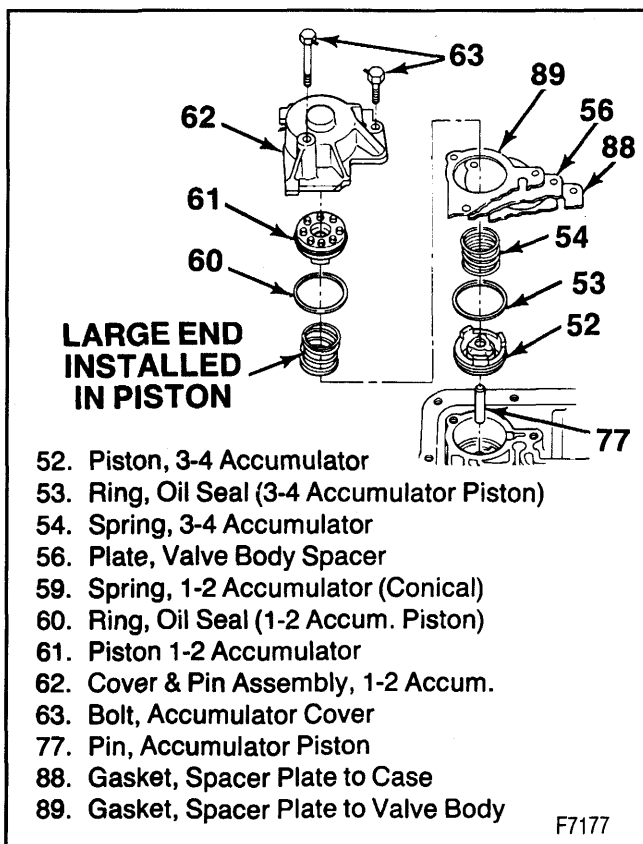

Figure 19—1-2 and 3-4 Accumulator Assembly
6. The 1-2 accumulator piston seal (61) onto the 1-2 accumulator piston (61) (figure 19).
7. The 1-2 accumulator piston (61) into the 1-2 accumulator cover and pin assembly (62).
Remove or Disconnect (Figures 19 and 21)
Install or Connect (Figures 19 and 21)